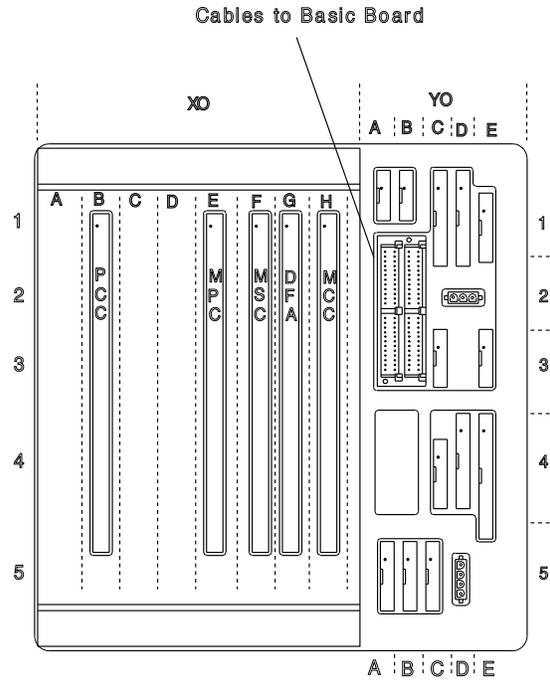

Figure 4-108. MOSS to Basic Cable Locations
15. At the MOSS board disconnect the four cables going to the basic board. Refer to Figure 4-108.
15. At the MOSS board, reconnect the four cables from Basic board and close the clamps which maintain them. Refer to Figure 4-108 on page 4-79.